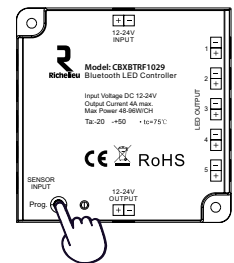

Figure 1
3.2 On the controller, short-press the Prog. button once (Figure 1).